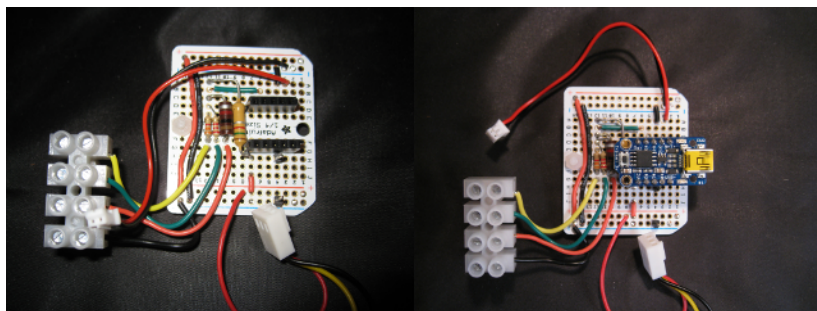

Figure 6-24. *Wiring the alarm circuit board and connectors*
3. Four resistors provide the analog divider to multiplex three sensors. The 1,500-ohm resistor (the large one in Figure 6-24; your resistor may be smaller) goes between the Trinket 3.3-volt regulated pin and the common resistor junction. Each of the other resistors is connected to this common area and to Trinket pin #3 (which is also analog pin 3). Four wires are run off-board to connect the sensors via the Eurostyle terminal block.
5. The connector for the PIR (infrared sensor) is also connected to regulated power (bottom of Figure 6-24).